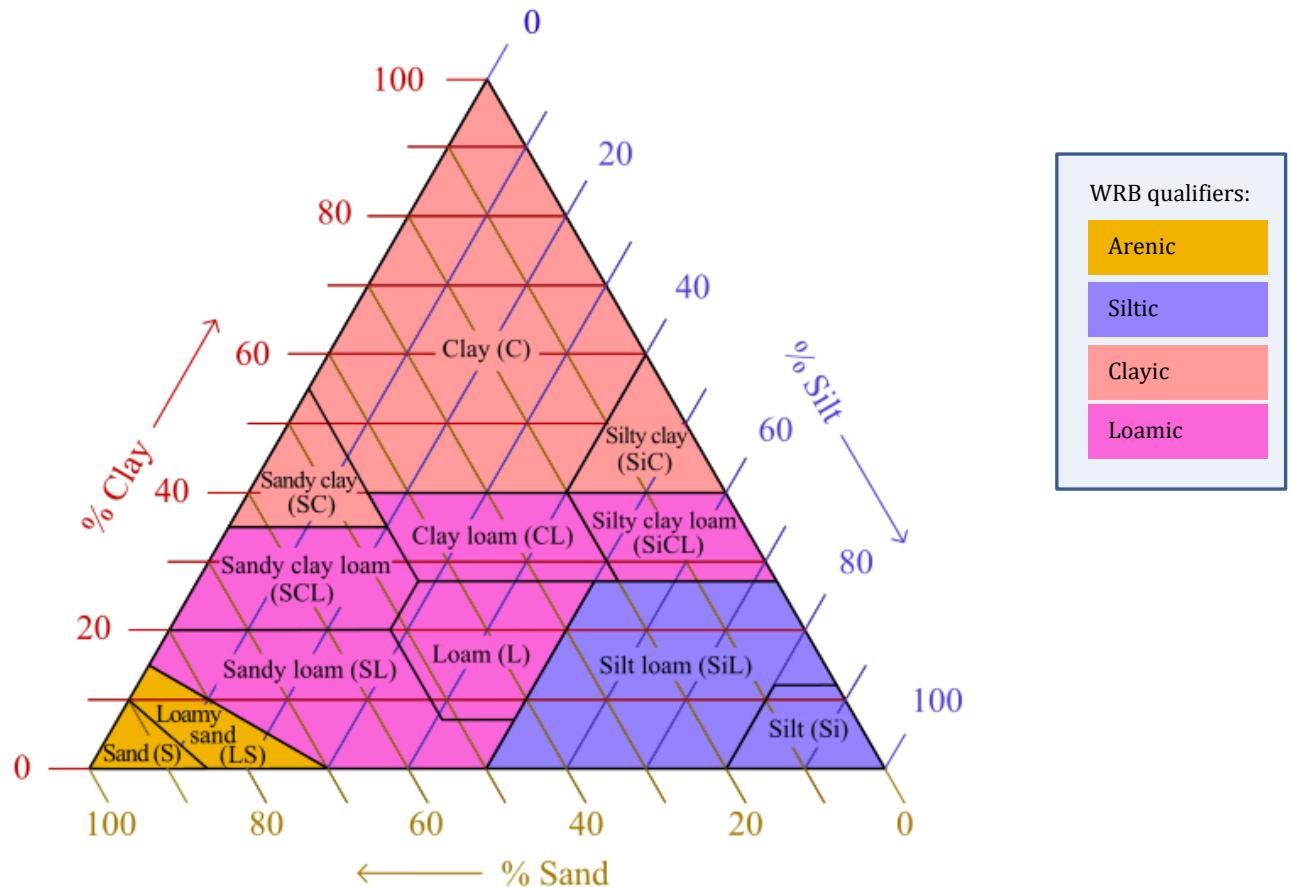
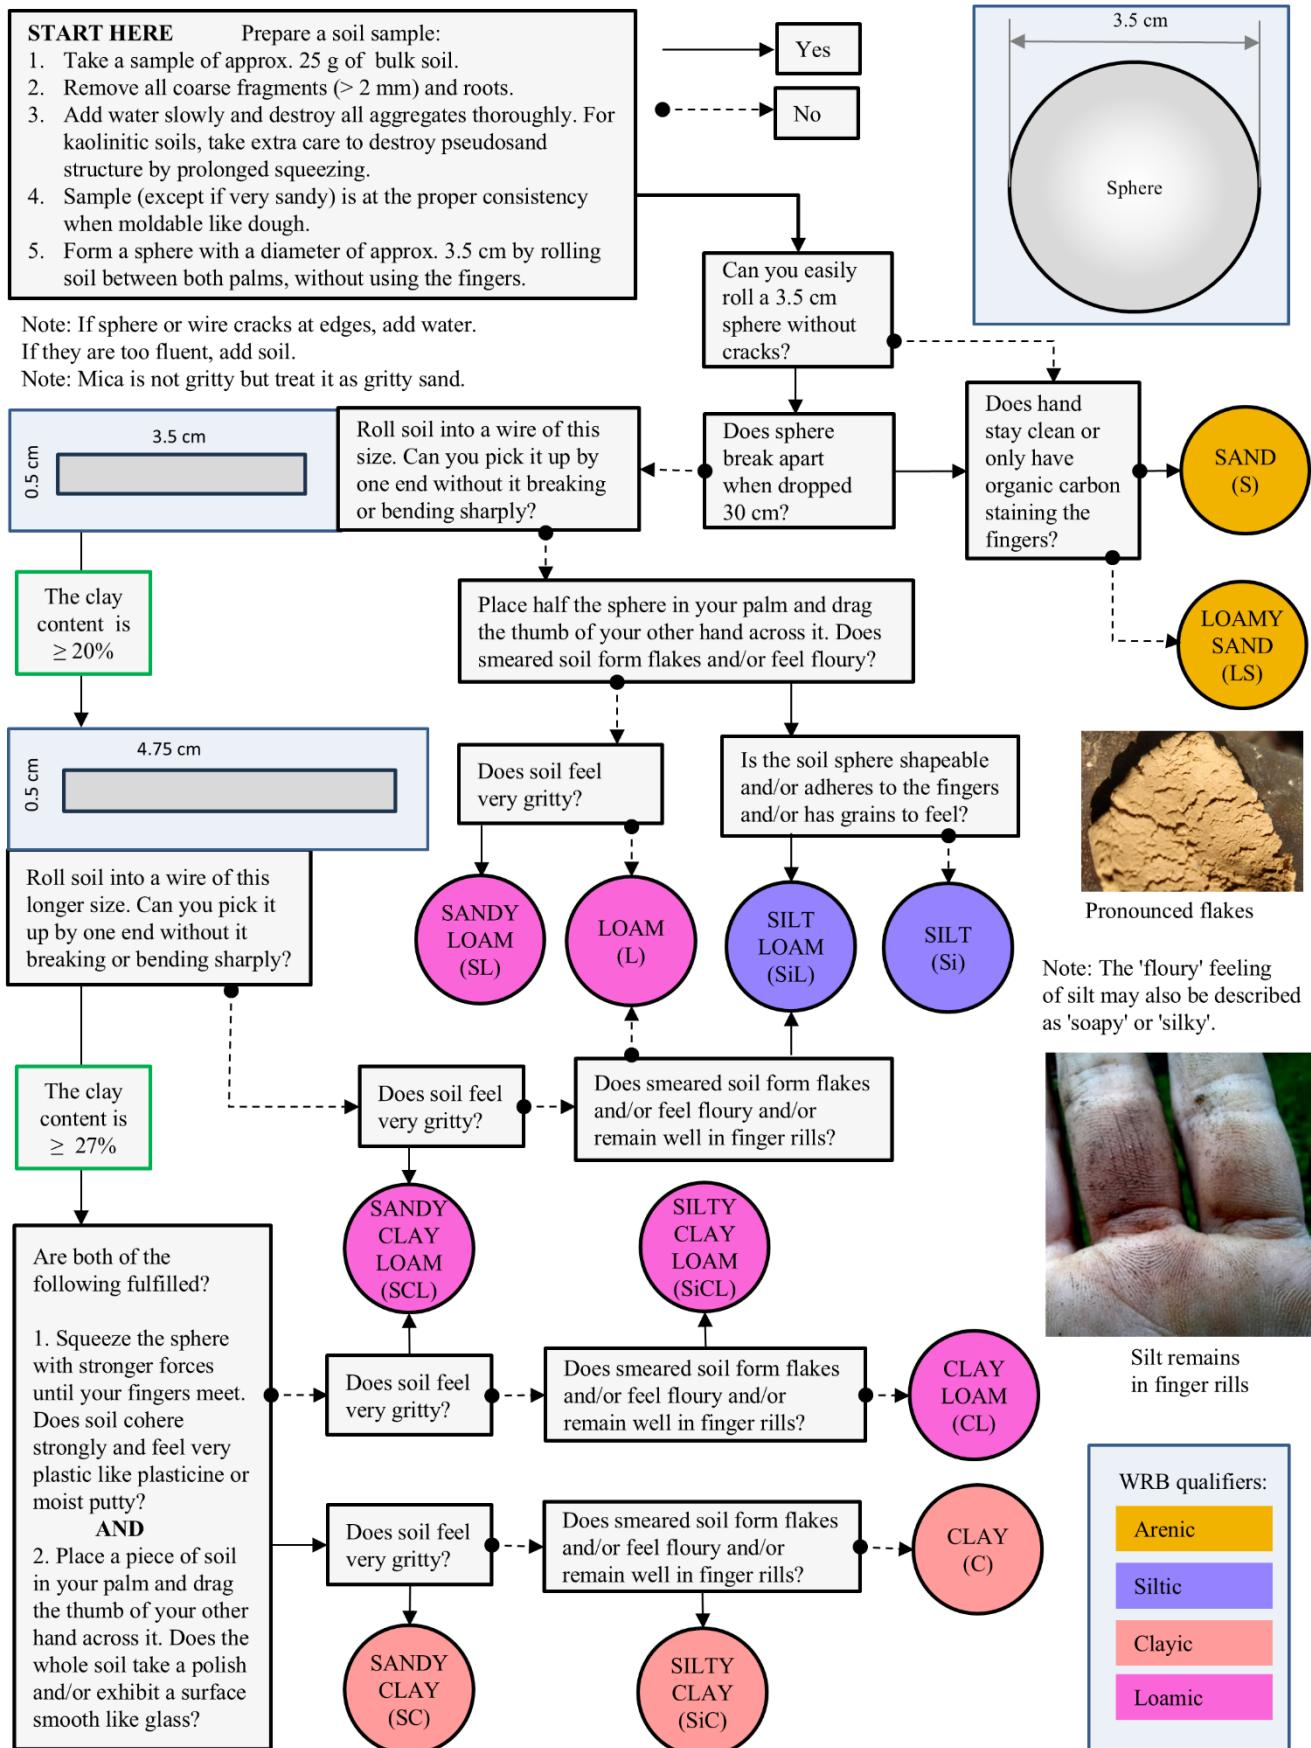

Figure 5. Texture classes with codes and with the correlation with the WRB texture qualifiers (IUSS Working Group WRB, Figure 8.13)
Figure 6. Flow chart for determination of texture classes (IUSS Working Group WRB, Figure 8.14, modified)
**Task on the scoresheet:** Determine the texture class of the fine earth ( $\leq 2 \text{ mm}$ ) for each mineral layer using the texture triangle and the codes indicated there (*Figure 5*). You may use the provided flow chart (*Figure 6*) or any other scheme for determining texture. In addition to the texture class, a field estimate of the percentage of clay and sand must be given. This estimate is useful for indicating increases or decreases in clay and/or sand content within texture classes, and for comparing field estimates with analytical results.